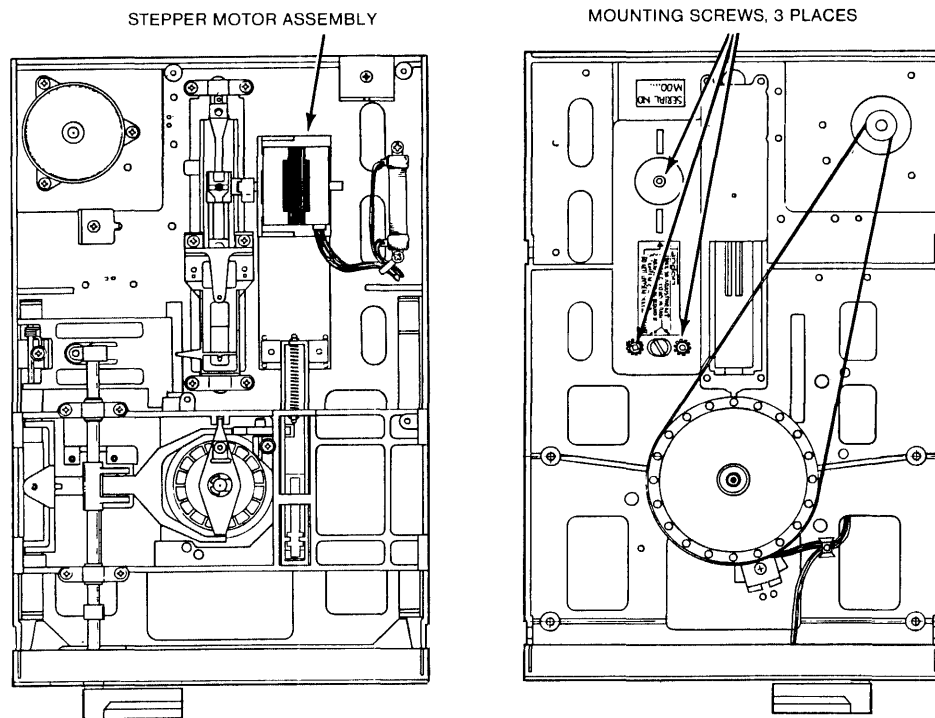

Figure 5-21
- A. Screw the front of the stepper band into the Head Carriage Assembly (see Figure 5-21).